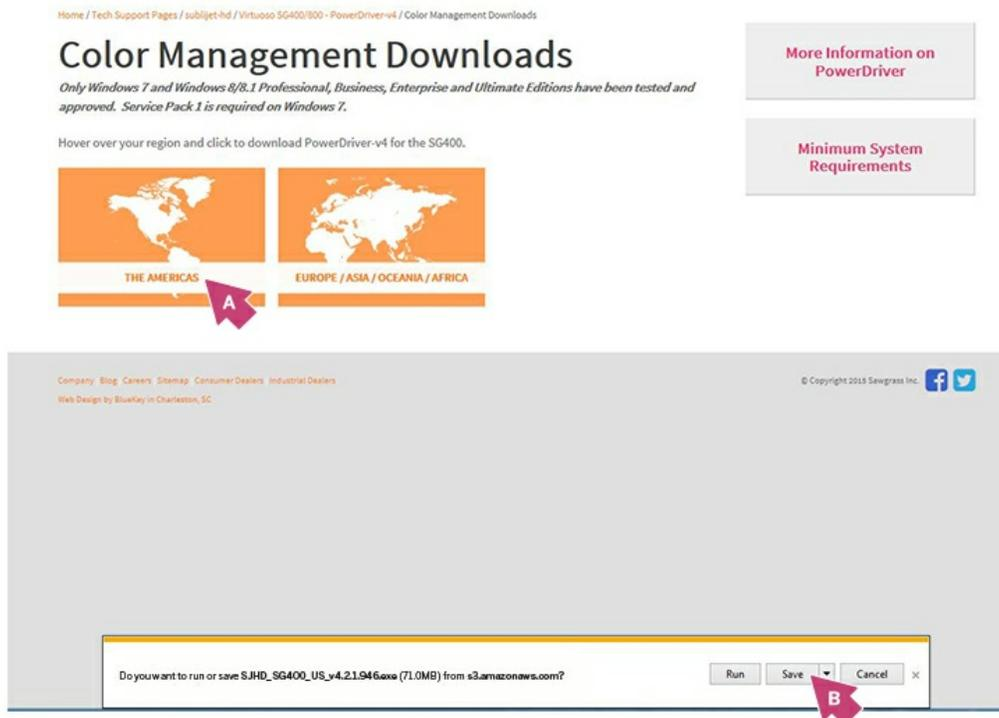

FIGURE 3
3. The following window will appear asking if you to select your region. For this example, we will select **The Americas**. Then a window will appear asking if you want to Run, Save or Cancel. Click **Save**. See Figure 3.